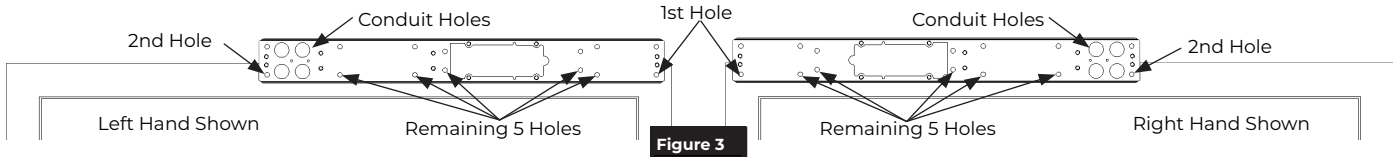

Figure 3
4. Ensure backplate is aligned with door frame. Using the backplate as guide, mark and drill second mounting hole. (Figure 3)
6. Using the backplate as a guide, drill and tap remaining five (5) holes in frame. (Figure 3)
7. Secure with additional five (5) screws and tighten all screws.
8. **For concealed wiring:** Using the backplate as a guide, mark and pre-drill two (2) conduit holes with the 3/16" drill. Then use the Ø7/8" hole saw or equivalent to drill two (2) conduit holes.